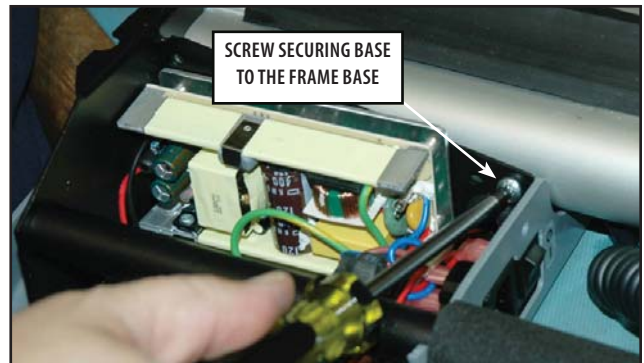

FIGURE 6.13
6. Using a #2 Phillips screwdriver, remove the screw on each side of the Frame Base to release the Base. **Refer to Figure 6.13.**